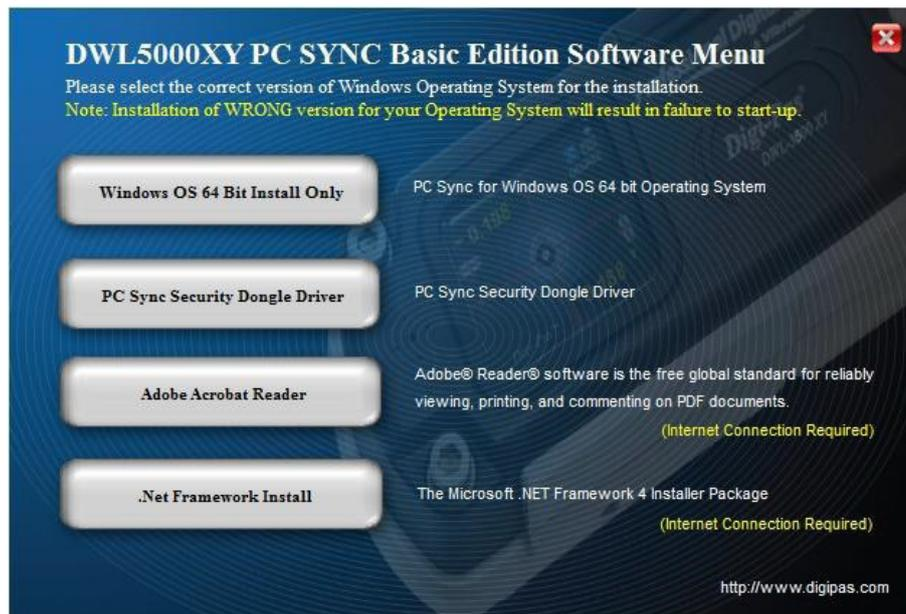

Figure 16. Interface of the software installation page
1. DWL5000XY, DWL5500XY or DWL5800XY PC Sync Software Basic Edition CD comes together with the tilt sensor module package. Insert the PC Sync Software CD to the PC, auto-run screen appears as in Figure 16. Click on “Windows OS 64 Bit Install Only” button to start the installation. Alternatively, DWL5000XY or DWL5500XY PC Sync Software Basic Edition can be downloaded from <https://www.digipas.com/support/firmware.php>.